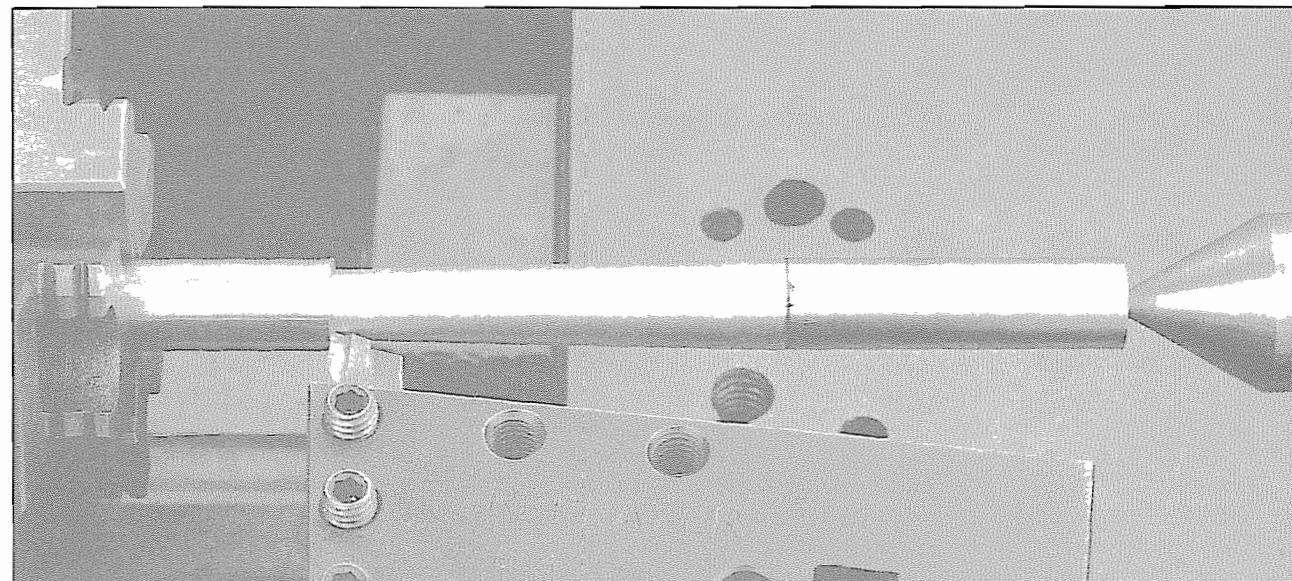

Figure 4-44. The second cut begins where the first cut left off.
9. Turn the lathe off, and loosen the chuck. Slide the tailstock back, and slide the workpiece out so that the live center supports it again. Retighten the chuck, and take up any slack with the tailstock screw. Crank the compound back to the starting point, and move the lathe carriage so that the cutting tool is about 1/4" to the right of where the first cut ended. Turn the lathe on, and with the crossfeed screw, move the cutting tool toward the workpiece until it just touches the surface. Then with the compound screw, hand-feed the tool toward the headstock again, making the *second* cut (Figure 4-44).